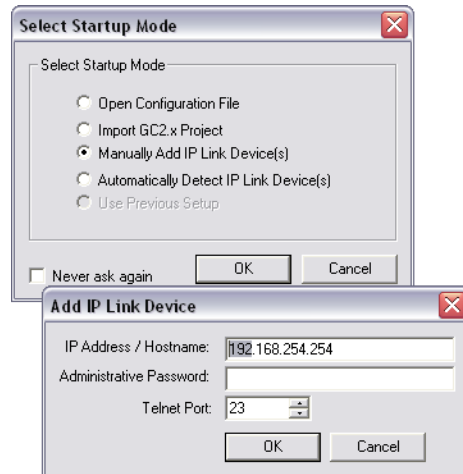

Figure 31. Select Startup Mode Window
If the Select Startup Mode window (see figure 31 on the next page) **does not** appear, proceed to step 4:
2. If the Select Startup Mode window (see figure 31) appears: